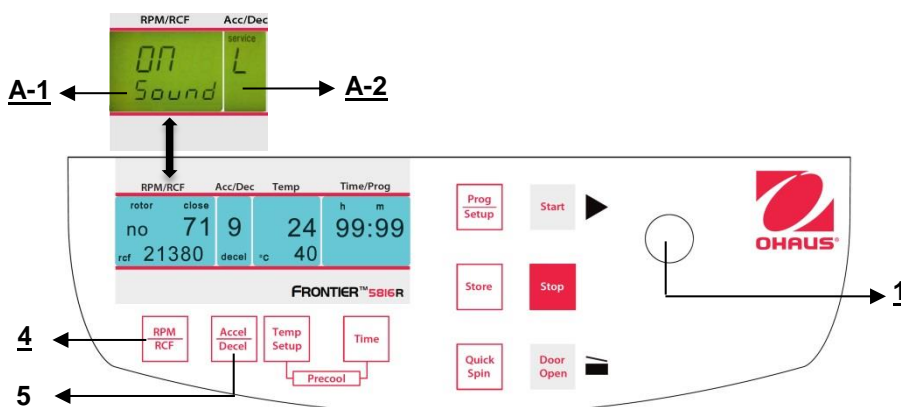

Figure. 32
Proceed as described under point 4.1.1 to enter this program mode and then press the key **"Accel/Decel"** (5). In the display **"Acc/Dec"** (A-2) the word **"Service"** flashes. Now select the letter **"L"** with the adjusting knob (1). As a result, the words **"On Sound"** appears in the display **"RPM | RCF"** (4). If you press the key **"RPM | RCF"** (4) now, the word **"On"** flashes and you can switch off the sound with the adjusting knob (1) (See figure 32).